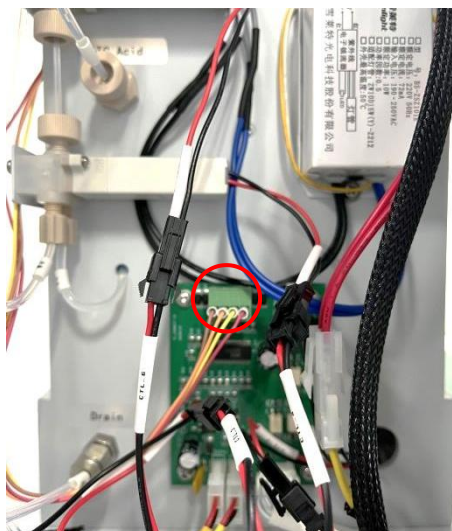

Fig.6.46
- 2) Unplug the plug of electric wire of the TC acid-in peristaltic pump (Fig. 6.46).